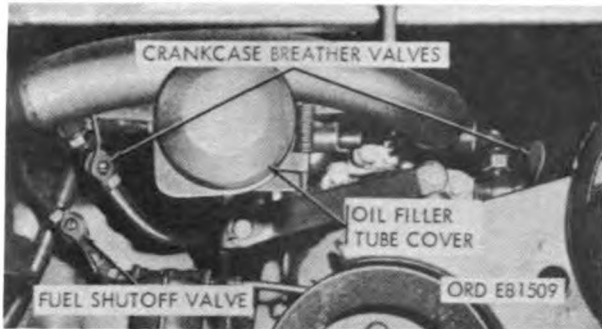

Figure 2-7. Location of fuel shutoff valve, crankcase breather valves, and oil filler tube cover.
n. Fuel Shutoff Valve. The fuel shutoff valve is located in approximately the same position near the fuel filter assembly on all models. When the valve handle is parallel to the fuel line and valve body, the valve is open (fig. 2-7).
o. Engine Crankcase Breather Shutoff Valves. The vehicle is equipped with breather shutoff valves. One is located between the crankcase and the carburetor or air cleaner adapter. The other is located to the right of the air cleaner assembly directly over the fuel filter. The breather shutoff valves are closed by turning the handle to a position at a right angle to the valve body. The breather shutoff valve must be open for normal operation (fig. 2-7), and closed before the vehicle is turned over, or on its side for lubrication or maintenance.
Step No. 1. Fuel Shutoff Valve. Make sure that the fuel shutoff valve is open as shown in figure 2-7.
Step No. 2. Crankcase Breather Valves. Remove engine access cover and make sure both engine crankcase breather valves are turned to OPEN position as shown in figure 2-7.